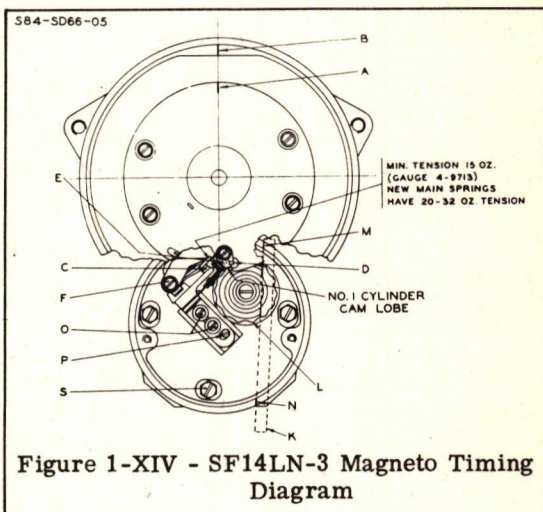

Figure 1-XIV - SF14LN-3 Magneto Timing Diagram
With the ignition switch "OFF" and mixture control in "FUEL CUT-OFF," turn the engine crankshaft in the direction of normal rotation until the step, cut in the breaker cam (L), lines up with the timing marks (M) and (N) cut in the rim of the breaker cup, as indicated by a straight edge (K) (preferably a steel scale). At this point, the timing mark (A) on the distributor rotor will coincide with the marker (B) on the magneto front end plate indicating that the rotor is in a position to distribute a spark to No. 1 cylinder. See fig. 1-XIV.
To check the breaker adjustment, refer to fig. 1-XIV and proceed as follows.
Rotate the crankshaft or magneto shaft, as the case may be, until the edge of the straight edge (K) on the cam step coincides with the timing marks (M) and (N) on the breaker end of the housing. With the cam in this position, the breaker points should just begin to open. The permissible tolerance from the edge of the straight edge (K) to the point (N), when the points start to open is 1/32 inch. If the breaker does not start to open within this tolerance, refer to fig. 1-XIV and adjust as follows:
To check the breaker mainspring for proper tension, employ Bendix-Scintilla gage No. 4-9713 or a spring tension gage of zero to three or four pounds range graduated in one-ounce increments. Place the hook of the gage under the mainspring just outside the contact point, as indicate by the arrow point from the tension note on fig. 1-XIV. If the mainspring has been in operation and the indicated tension required to open the points is 15 to 32 ounces, the mainspring is satisfactory for further service. However, if the indicated tension is below 15 ounces, a new mainspring must be installed and its indicated tension after installation must be from 20 to 32 ounces to open the points. The shims (Bendix-Scintilla No. 10-3768) are installed under the mainspring primarily to line up the contact points squarely. The number of shims used, however, will effect the mainspring tension; the greater the number of shims, the less the tension will be and vice versa.
(1) Lift the cam follower (F) and wipe the contact points with a clean cloth moistened with unleaded gasoline. Do not allow the gasoline to come in contact with the felt-covered follower as this would thin the oil in the felt.
(2) Turn the magneto drive shaft in the direction of normal rotation until the step cut in the breaker cam (L) lines up with the timing marks (M) and (N) cut in the rim of the breaker cup, as indicated by a straight edge (K) (preferably a steel scale). See fig. 1-XIV for designated details. At this point the timing mark (A) on the distributor rotor will coincide with the mark (B) on the front end plate, indicating that the rotor is in a position to distribute a spark to No. 1 cylinder.
(3) Insert a piece of .001-inch steel feeler stock between the contact points (C) by lifting the felt-covered cam follower (F) which causes the points to open. If the breaker spring (C) itself is lifted to insert a feeler between the points, a permanent set may result from excessive bending. If the points have already begun to open, insert the feeler stock and turn the magneto drive shaft slightly in the opposite direction until the breaker points are closed. Now turn the shaft in the direction of normal rotation and pull lightly on the feeler stock. Stop turning at the instant the feeler stock starts to slip, indicating that the breaker points are just opening. Place the straight edge against the face of the step cut in the cam and check the alignment with the timing marks (M) and (N) in the rim of the breaker cup.
(4) If the straight edge does not coincide with the timing marks, turn the magneto shaft until the alignment is made, keeping the .001-inch feeler stock between the points. Loosen the two screws (O) which fasten the breaker assembly to the breaker housing. Hold the magneto shaft in aligned position and adjust the eccentric (P) so that the contact points are just beginning to open. Tighten the securing screws (O) and recheck the adjustment.